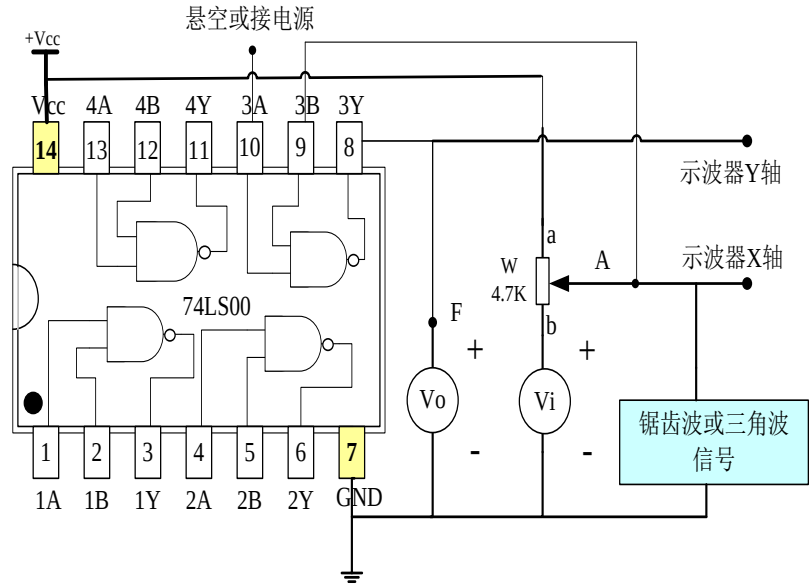

Figure 8 Measurement of 74LS00 Transmission characteristics and Open / close level V_{ON} and V_{OF}
- Connect circuit according to figure 8.